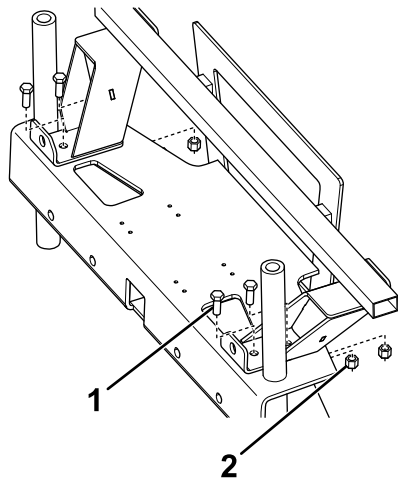

Figure 4
7. Loosely attach the bottom of the mounting brackets to the vehicle using 4 bolts (3/8 inch) and nuts (Figure 4).